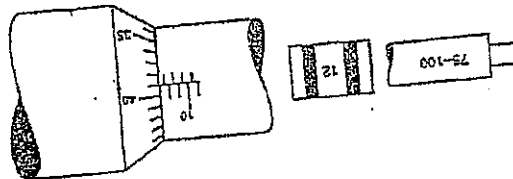

FIGURE 1
- 2.1 FIGURE 1 indicates a reading as seen on a metric inside micrometer. (1)
- 2.1.1 Write the correct reading as seen in FIGURE 1. (1)
- 2.1.2 Name the degree of accuracy of the measuring instrument in FIGURE 1. (1)